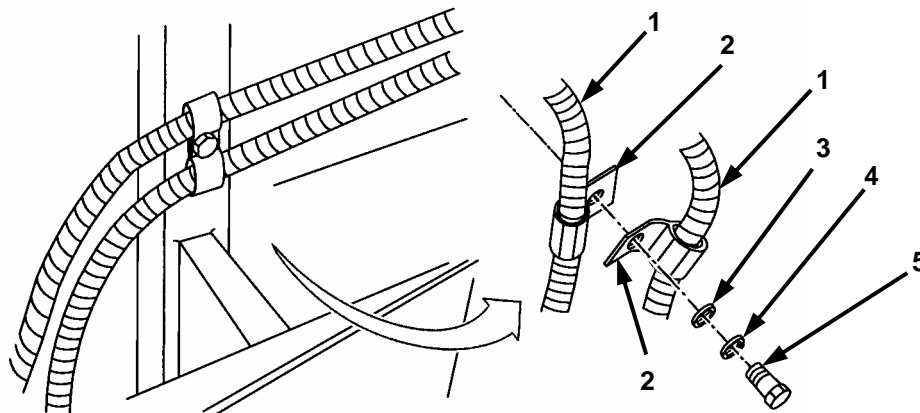

Figure 2-45. Blade Folder Hose Clamps (2 of 2).
- c. Secure two blade folder hoses (Figure 2-45, 1) with two clamps 900729-3 (2), one flat washer MS27183-14 (3), lock washer MS35338-46 (4), and screw B1821BH038C075N (5) to hole on hull member (Figure 2-12).
- d. Route two blade folder hoses (Figure 2-45, 1) from inside to outside vehicle through holes (Figure 2-10).